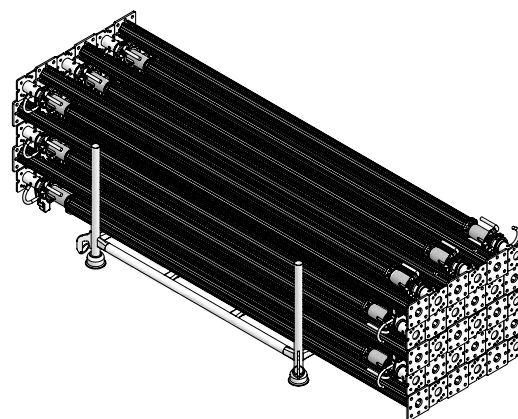

Fig. 36.2 MEP props 450 in piling rack
- 30 MEP props 450: 1060 kg (Fig. 36.2).